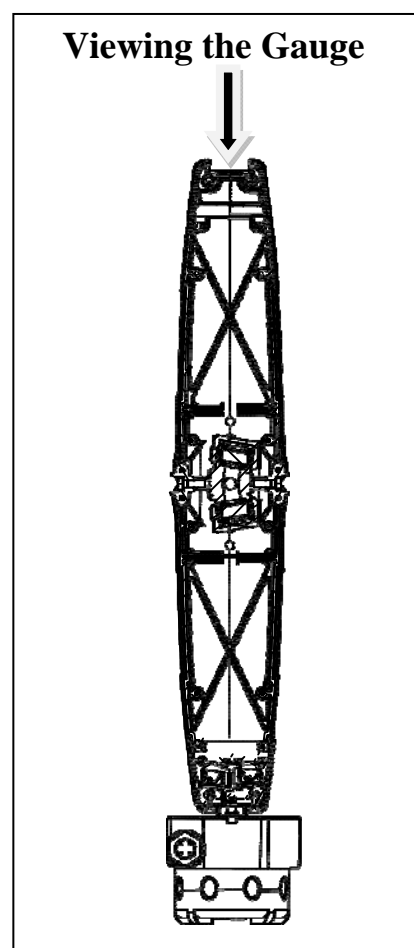

Figure 2
- 2) To mount the LED Illuminator assembly to the gage: While holding the illuminator at a slight angle, slide illuminator top onto pins. Align bottom pins with slots and rest unit in place. **Note: The Simpliport® Gage must be viewed with the packing nuts facing slightly to the left. Make sure the Illuminator and viewing hood are in the correct orientation to the Simpliport® Gage. (Fig. 2)**